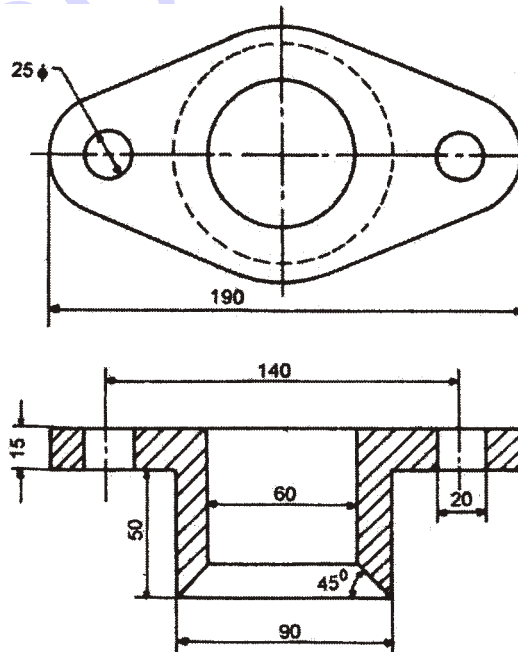

Fig.1.(All dimensions are in mm)
13. Calculate the weight of the component shown in Fig. 1. Density of the material may be taken as 8 grams/cm³ :